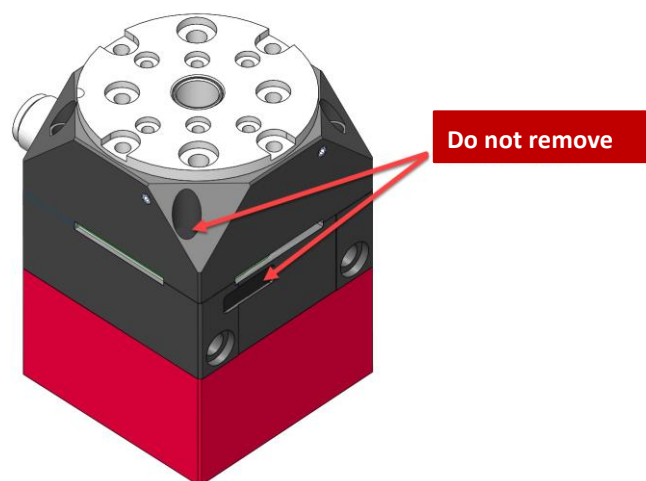

Fig. 4 Rubber covers on the SREH-50
- The rubber covers (Fig. 4) must not be removed!